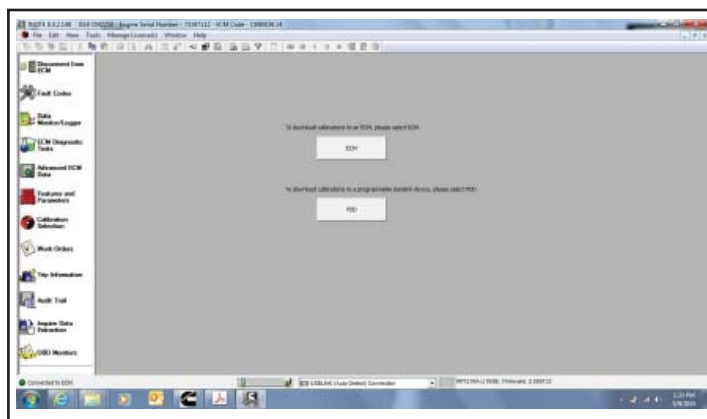

Figure 17 - Selecting ECM
1.17. Select ECM. See Figure 17.